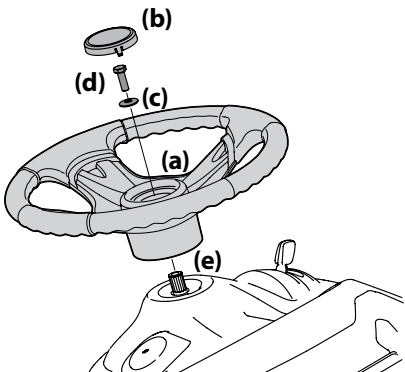

Figure 2-4
- Place the cupped washer (c) -- cupped side down -- over the steering wheel (a) and secure with the hex bolt (d). See Figure 2-4.